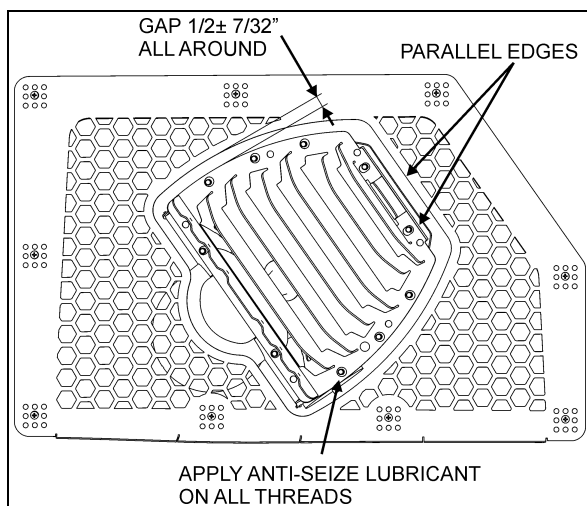

FIGURE 7: DIFFUSER POSITION ADJUSTMENT
2. For proper angular position, make sure that the two edges shown on figure 7 are parallel with each other.